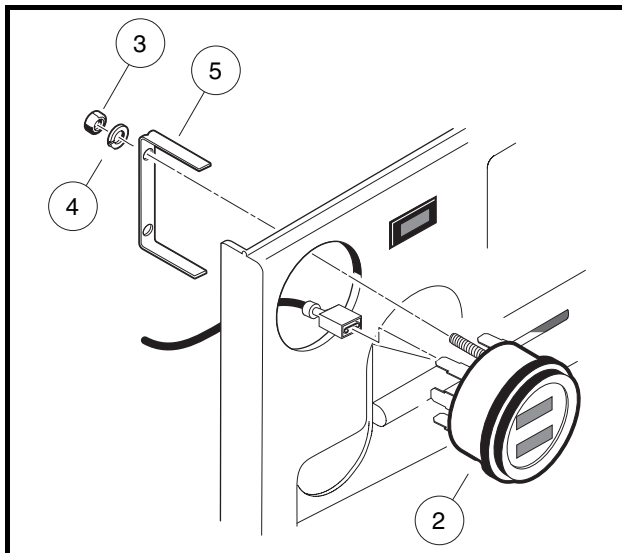

Figure 12-22 Fuel Gauge/Hour Meter Installation
3. Disconnect the wires from the fuel gauge/hour meter (**Figure 12-22, Page 12-22**). Do not allow wires to touch.
4. Remove the two hex nuts (3) and lock washers (4) from the threaded studs on the back of the gauge. Remove the mounting bracket (5) from the back side of the fuel gauge/hour meter (2) and remove the fuel gauge/hour meter from the dash.
1. Install a new fuel gauge/hour meter into hole in dash until flange seats against dash (**Figure 12-22, Page 12-22**).